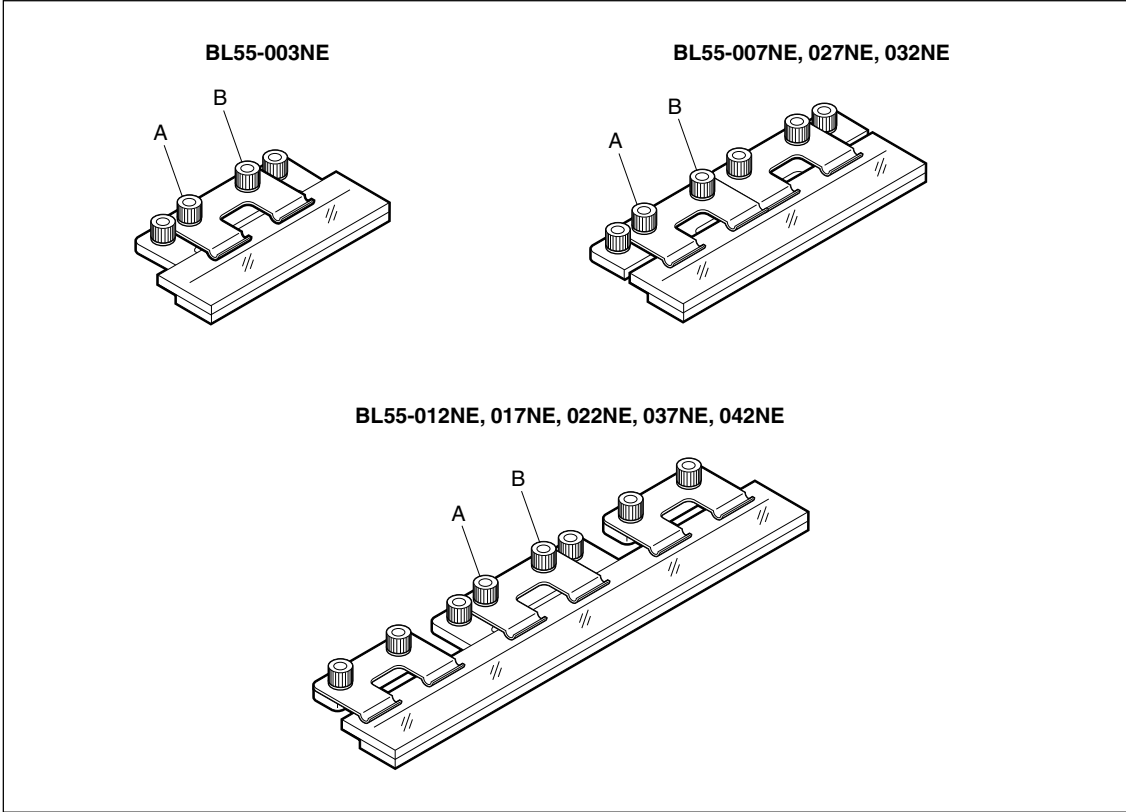

Fig. 3-6
- 5 Leave the scale in the condition of Fig. 3-6 for one hour or more until the scale temperature stabilizes.